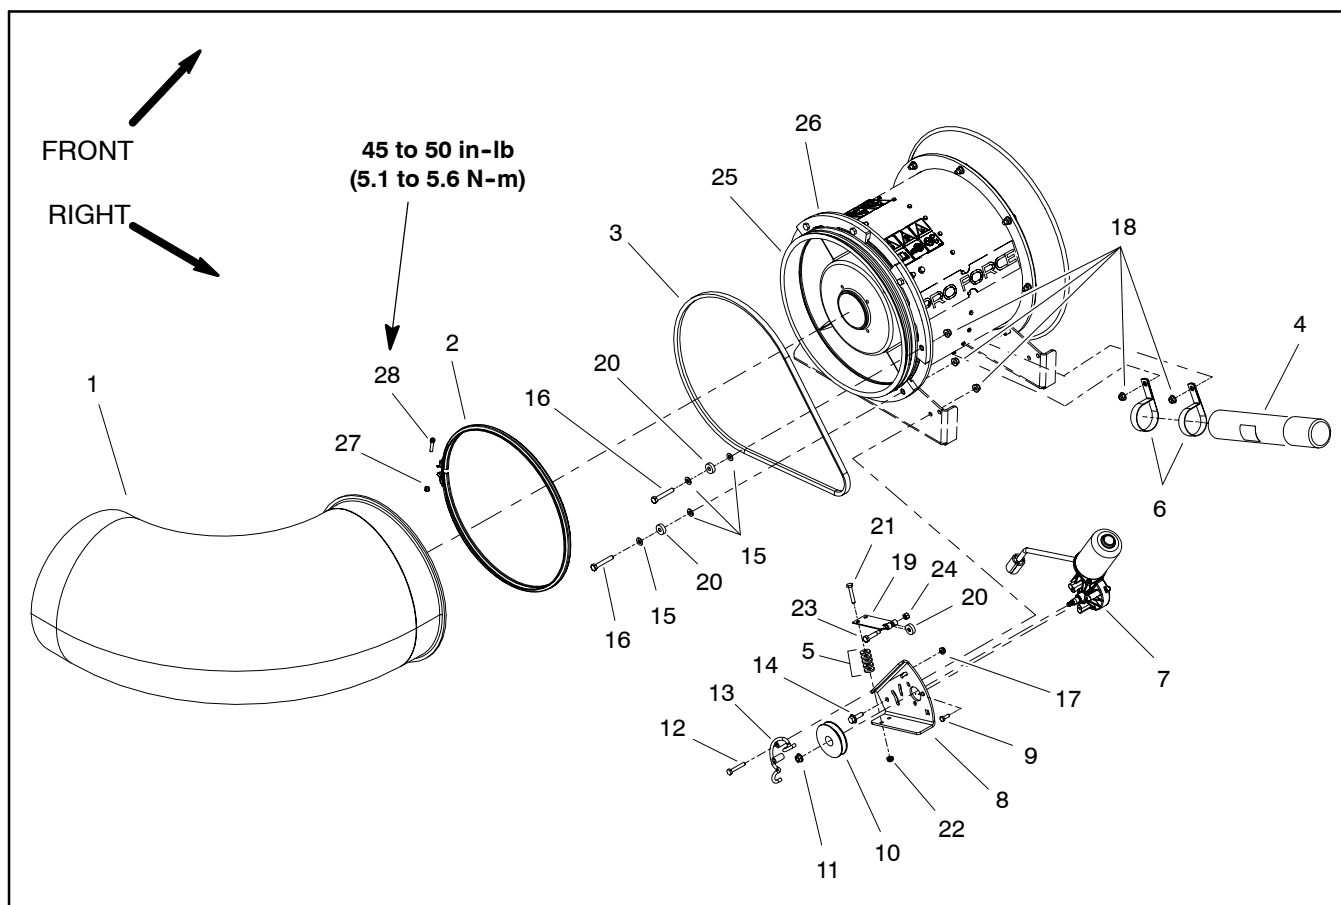
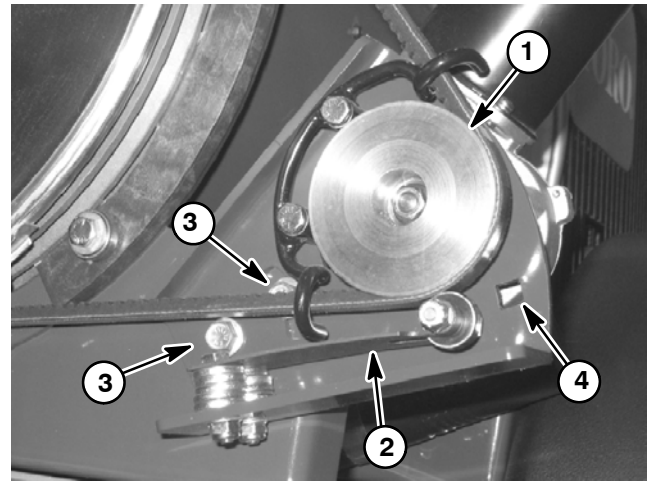

Figure 9
Figure 10
Removal (Fig. 9)
- Loosen two (2) flange head screws (item 14) and flange nuts that secure nozzle motor bracket to outer housing (Fig. 10). Rotate bracket and nozzle motor to loosen v-belt.
7. Loosen cap screws and flange nuts that secure belt guard (item 13), route v-belt from behind guard and carefully remove belt from machine.
8. If necessary, remove nozzle guides, pulley bearings and nozzle pulley from outer housing using Figures 9 and 12 as guides.
Installation (Fig. 9)
1. If removed, install nozzle pulley, pulley bearings and nozzle guides using Figures 9 and 12 as guides.
2. Place v-belt in nozzle pulley, route behind belt guard (item 13) and install belt on motor pulley.
3. With a 3/8 in. drive torque wrench, pivot the motor bracket from **200 to 230 in-lb (23 to 25 N-m)** to set v-belt tension (Fig. 10). **Do not over tension belt.** Hold bracket with the torque wrench and tighten two (2) flange head screws and flange nuts to secure belt adjustment and nozzle motor bracket.